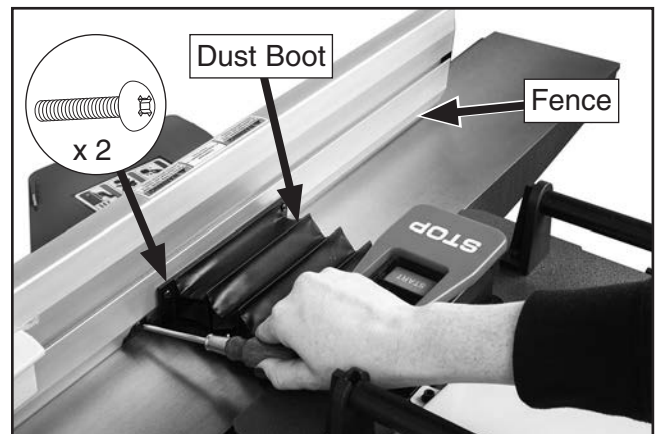

Figure 12. Installing accordion dust boot on jointer fence.
3. Attach accordion dust boot to back of jointer fence (see **Figure 12**) using (2) pre-installed M4-.7 x 10 Phillips head screws.